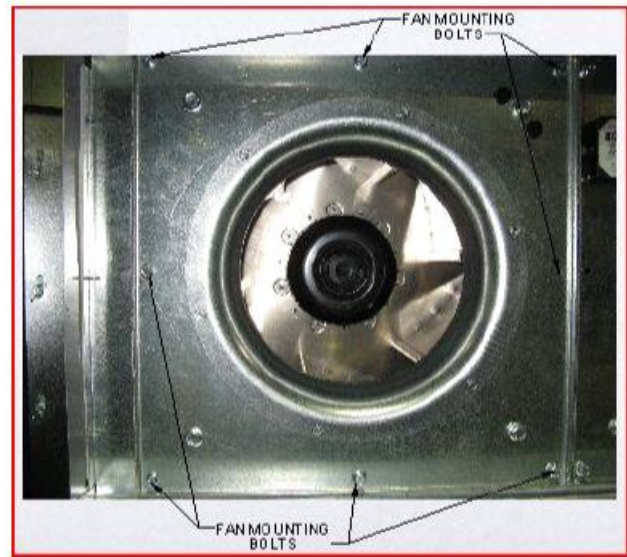

Figure 16 – Fan Mounting Bolts
14. Remove the fan mounting bolts and discard. New bolts are provided with replacement fan. See Figure 16. Remove the fan assembly from EnergyX unit.